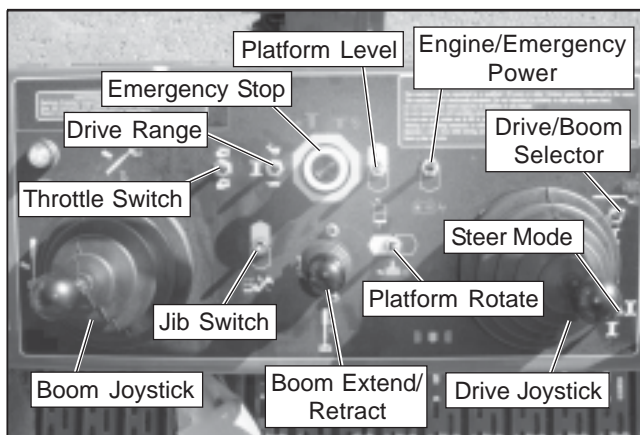

Figure 7.21 – Upper Controls
3. At the upper controls (refer to Figure 7.21), pull the emergency stop button outward.